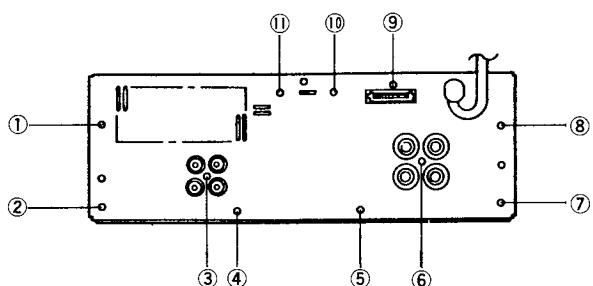

Fig. 3
1. Remove screws ① to ⑪, and then remove the rear panel in Fig. 3
1. Remove the rear panel in Fig. 3 (Refer to step ③)
2. Remove connector ①, Remove Switch rod ② from speaker selector switch
3. Remove screws ③ to ⑥, and then remove the pcb-2 ⑦ with the power trans
⑤ PCB-⑯(Main PCB) Removal